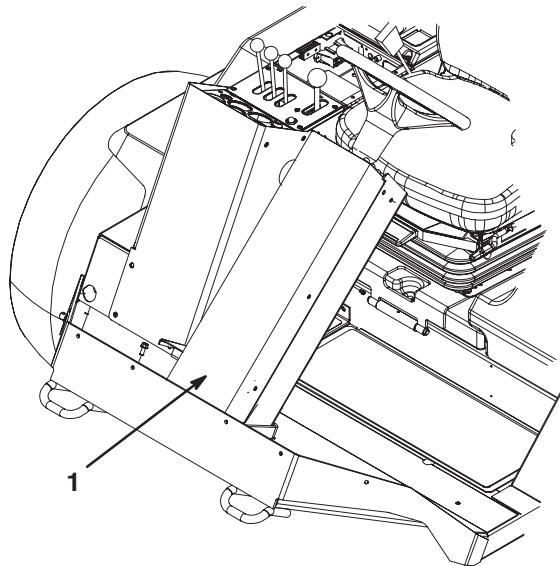

Figure 8
1. Remove the front cover of the steering tower (Fig. 8).